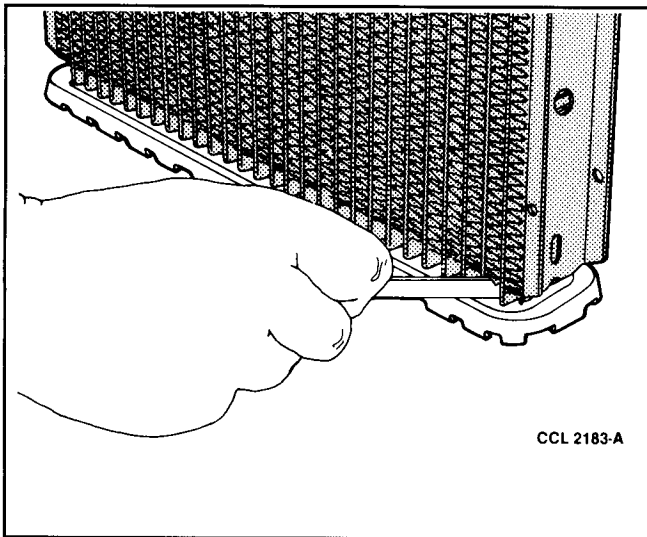

FIG. 18 Applying Repair Material
- If it is necessary to have the epoxy flow to obtain a satisfactory repair, warm the core around the leak with a 375 watt heat lamp. Then, apply the repair material to the leak (Fig. 18).